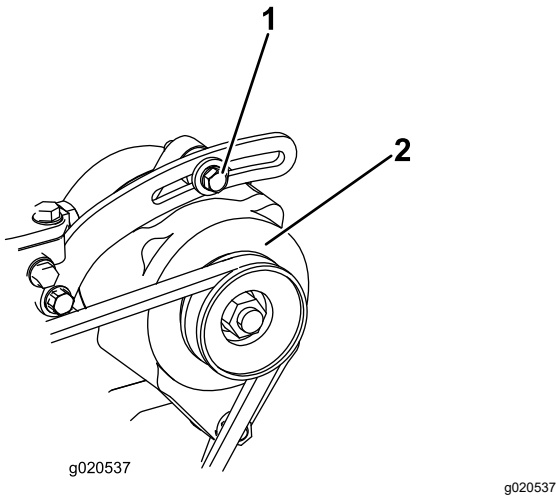

Figure 98
1. If the deflection is not 10 mm (3/8 inch), loosen the alternator mounting bolts (Figure 98).